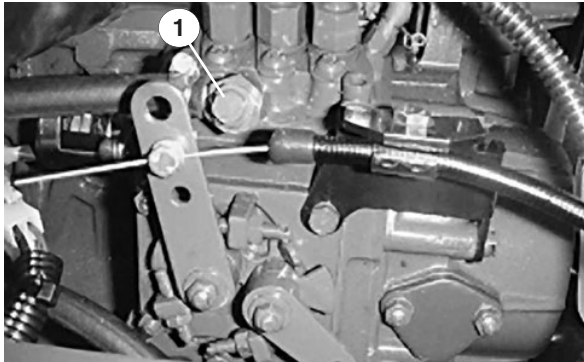

Figure 13
3. Open the air bleed screw on the fuel injection pump (Fig. 13).